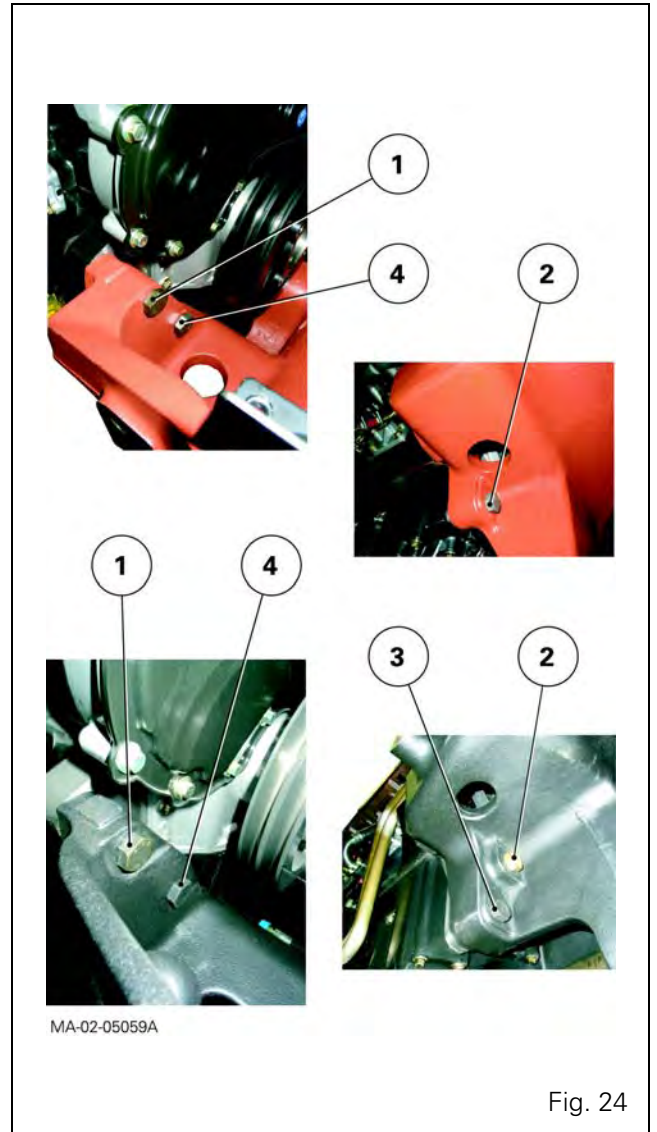
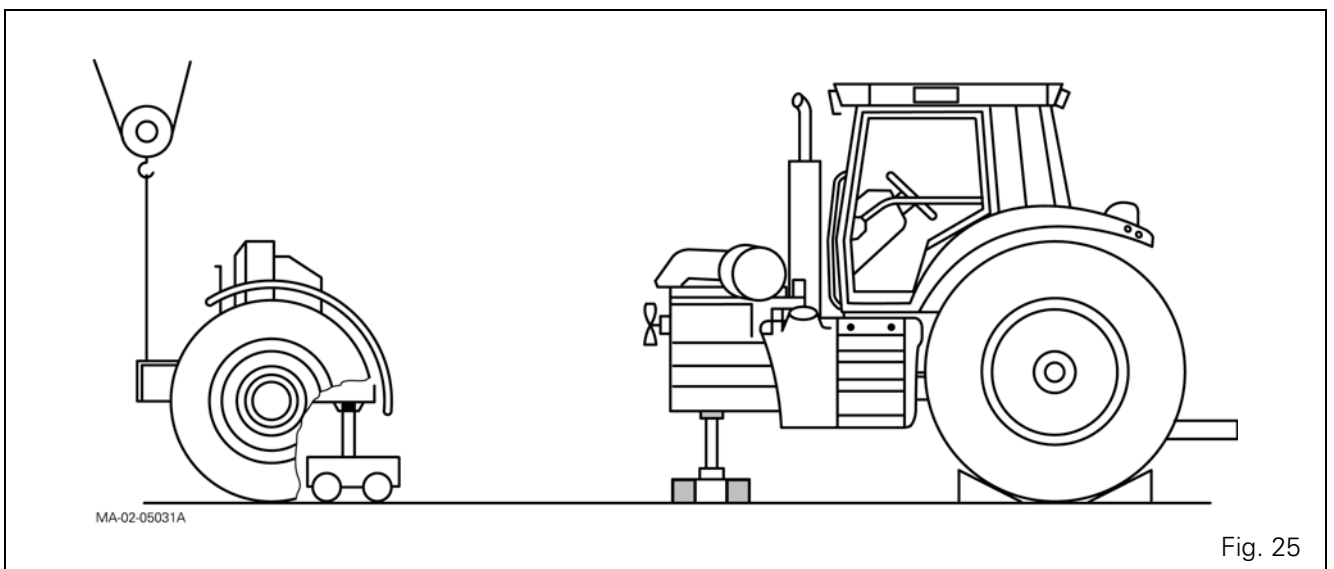

Fig. 24
Fig. 25
48. Install (Fig. 25):
49. Loosen and remove (Fig. 24):
- for Perkins engine with mechanical injection: screws and bolts (2), (4) and (1),
- for Perkins EEM engine: screws and bolts (2), (3), (4) and (1).With the help of an operator, gradually separate the engine front frame at the same time (Fig. 25).
When disassembling, also use the sling to reduce the risk of toppling of the front frame assembly (Fig. 25).